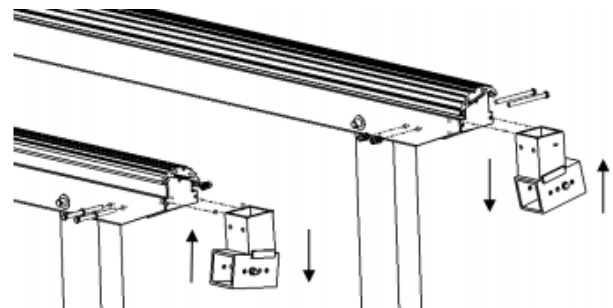

Figure 17
2. Align holes in Bunk support and Guide Pole Mounting Bracket, making sure the lower guide adjustment tube is angled upward toward the outside of the lift, and downward toward the inside of the lift as shown in Figure 17.